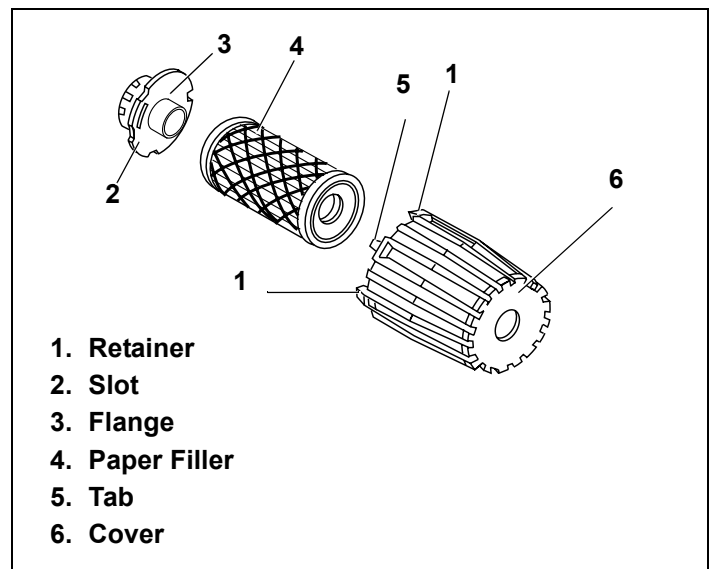

Figure 36. Air Cleaner Type "B" Assembly
1. Turn cover to left (counterclockwise) and remove it and paper filter from flange. See Figure 36.